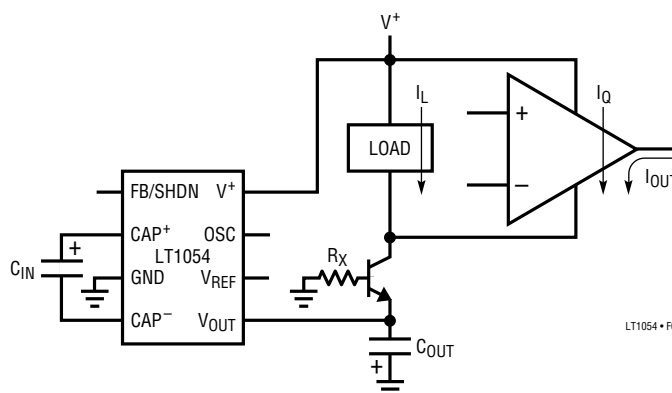

Figure 1
**VOUT (Pin 5):** In addition to being the output pin the pin is also tied to the substrate of the device. **Special care must be taken in LT1054 circuits to avoid pulling this pin positive with respect to any of the other pins.** Pulling pin 5 positive with respect to pin 3 (GND) will forward bias the substrate diode which will prevent the device from starting. This condition can occur when the output load driven by the LT1054 is referred to its positive supply (or to some other positive voltage). Note that most op amps present just such a load since their supply currents flow from their V+ terminals to their V- terminals. To prevent start-up problems with this type of load an external transistor must be added as shown in Figure 1. This will prevent VOUT (pin 5) from being pulled above the ground pin (pin 3) during start-up. Any small, general purpose transistor such as 2N2222 or 2N2219 can be used. RX should be chosen to provide enough base drive to the external transistor so that it is saturated under nominal output voltage and maximum output current conditions. In some cases an N-channel enhancement mode MOSFET can be used in place of the transistor.